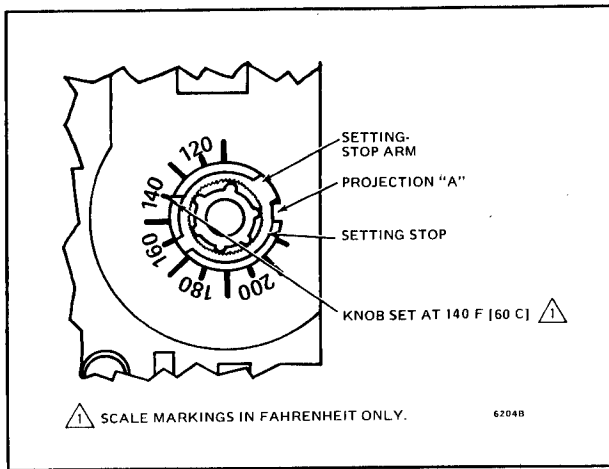

FIG. 23—SETTING STOP IN POSITION TO RESTRICT LOW LIMIT SETTING TO 180 F [82 C] OR BELOW.
2. Place setting stop over knob so that arm of setting stop will (after stop is pressed into place) strike projection "A" and prevent turning the knob beyond the chosen limit setting. See Fig. 23.